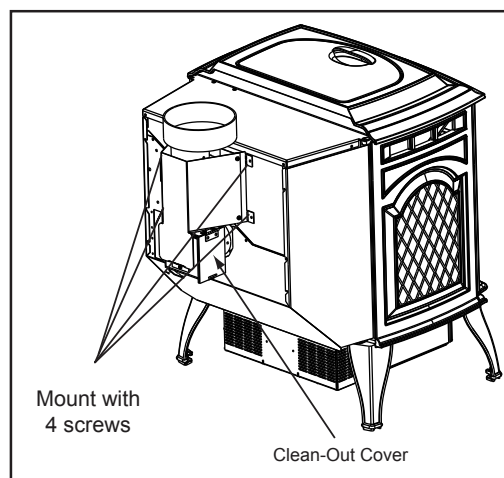

Figure 20.2
5. Drill 2 holes with #26 drill bit through the rear exhaust outlet using the 2 holes already in the short horizontal pipe in the top vent adapter as a guide. Install the 4 screws. **Figure 20.2.**